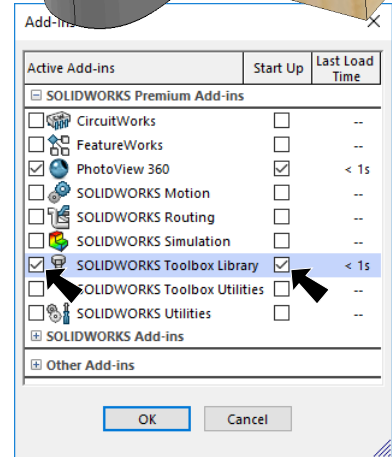

Fig. 1
- Step 3. In the dialog box find **SOLIDWORKS Toolbox Library** and place a check in the check box under **Active Add-Ins** and **Start-Up**. Click **OK**, **Fig. 1**.